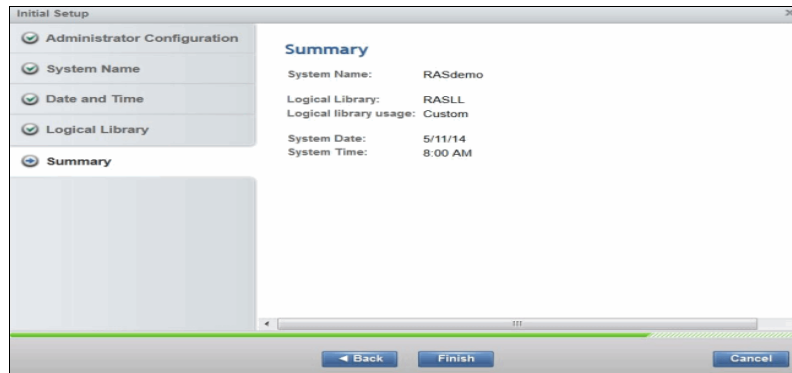

Figure 4-9 Summary
4. The window that is shown in Figure 4-9 displays a summary of the settings that were configured in the previous steps. Select **Finish** to complete the wizard and go to the main menu.